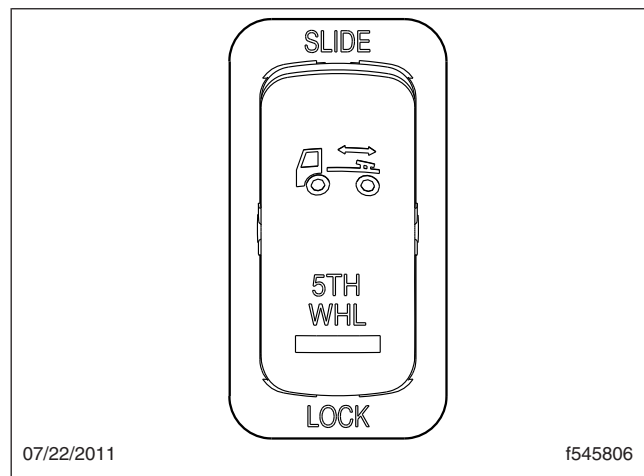

Fig. 17.15, Fifth Wheel Slide Switch
1. Press the top half of the air-slide switch to enable the air-slide feature. See Fig. 17.15